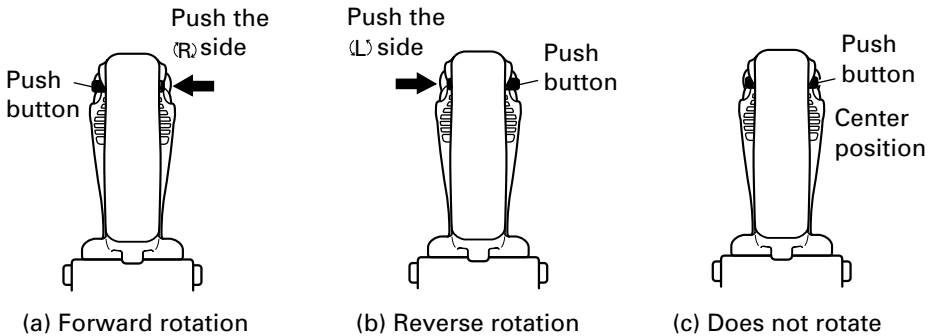

Fig. 7 Diagram seen from the handle side
4. Confirm the direction of bit rotation (Fig. 7)
The bit rotates clockwise (viewed from the rear side) by pushing the R-side of the push button. (Fig. 7-a)
The L-side of the push button is pushed to turn the bit counterclockwise. (Fig. 7-b)
The motor does not rotate if the push button is set to the center position. (Fig. 7-c)